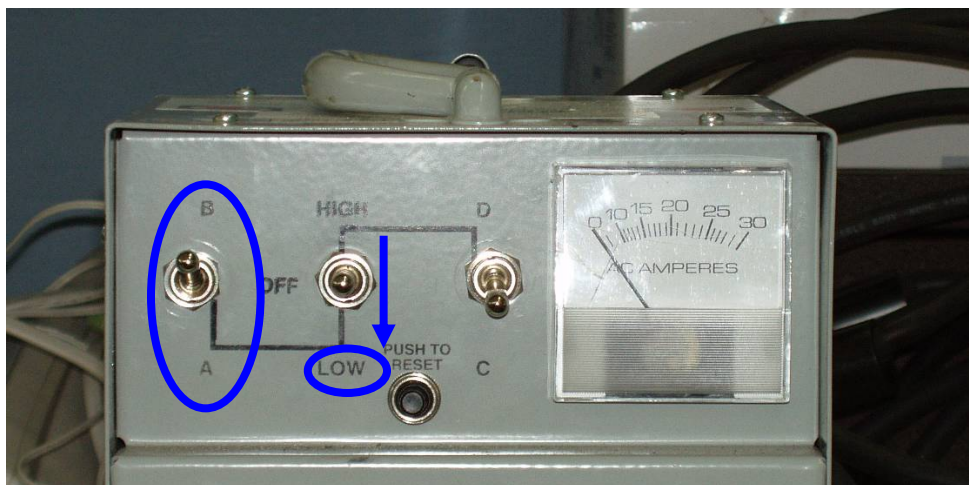

Figure 41- Front Face "Nibco" Soldering Unit
- Set the toggle switch on the “Nibco” Braze Unit Control unit to “**LOW**”. [See Figure 41- Front Face "Nibco" Soldering Unit